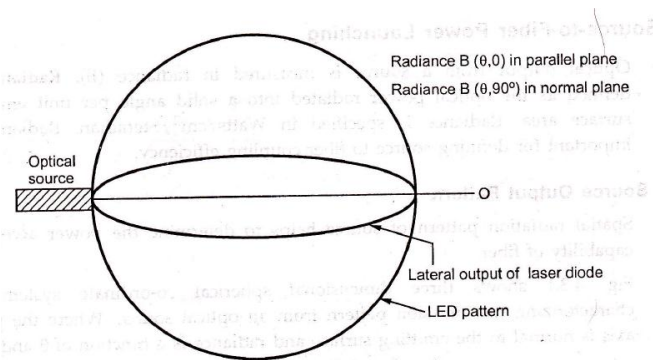

Fig. 4.3.2 Radiance pattern of Lambertian source
- The Lambertian output by surface emitting LED is equally bright from any direction. The emission pattern of Lambertian output is shown in Fig. 4.3.2 and its output is –